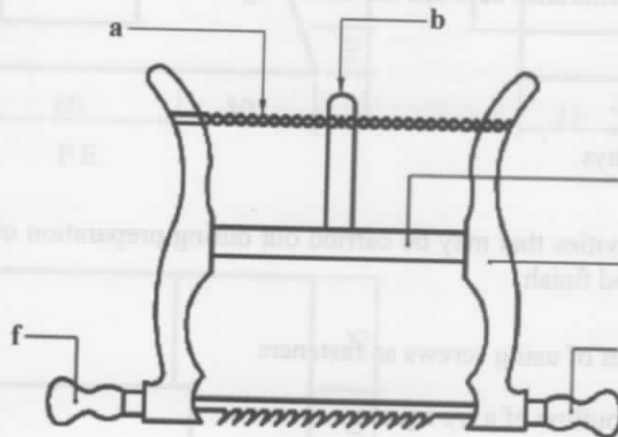

Figure 1
- Figure 1** shows a bow saw. (1 mark)